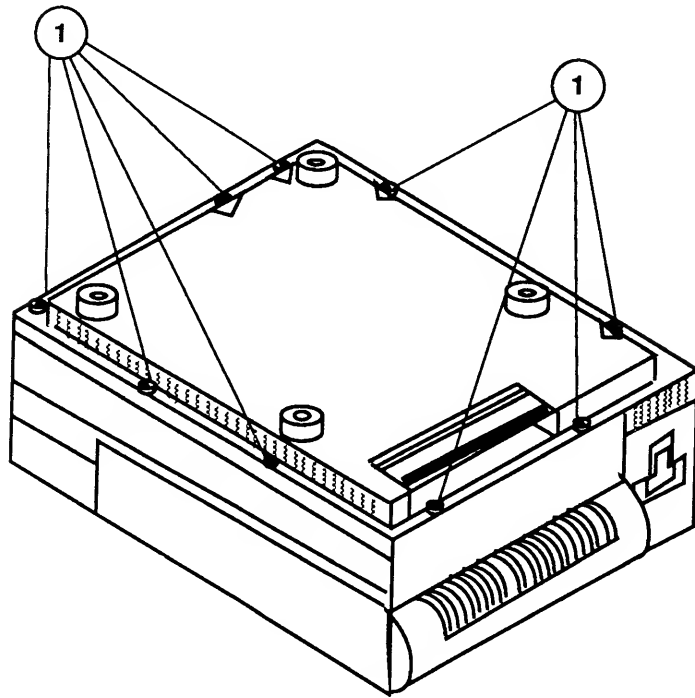

FIGURE 6
3. Remove the nine Phillips screws (Figure 6, #1) that secure the lower cover to the chassis of the printer.